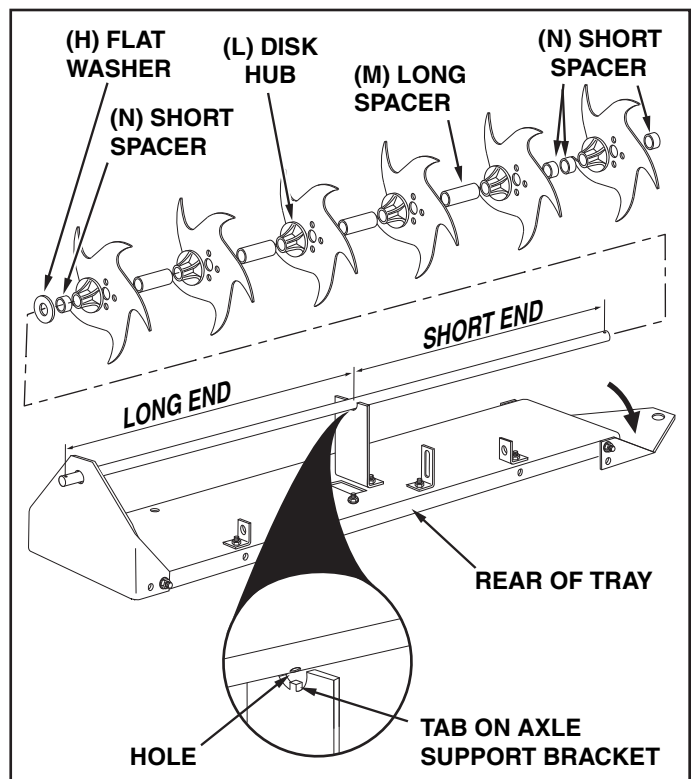

FIGURE 3 REAR VIEW
4. Pivot the end plate on your right down out of the way. Place the **long** end of the axle into the other pivot plate. (Measure from the blind hole in the middle of the axle. If there are two blind holes, use the hole that is in alignment with the end holes.) Fit the middle hole in the axle down onto the tab on the axle support bracket. See figure 3.
5. Assemble the following parts in sequence onto the short end of the axle (as shown in figure 3):
- a. A flat washer (H), short spacer (N), disk hub (L) and spike disk
- b. A long spacer (M), disk hub (L) and spike disk.
- c. A long spacer (M), disk hub (L) and spike disk.
- d. A long spacer (M), disk hub (L) and spike disk.
- e. A long spacer (M), disk hub (L) and spike disk.
- f. Two short spacers (N), a disk hub (L) and spike disk.
- g. A short spacer (Q).